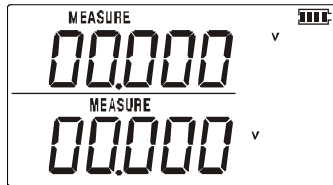

Figure 2.1-4
- Then the default interface of boot will be displayed as shown in Figure 2.1-4: